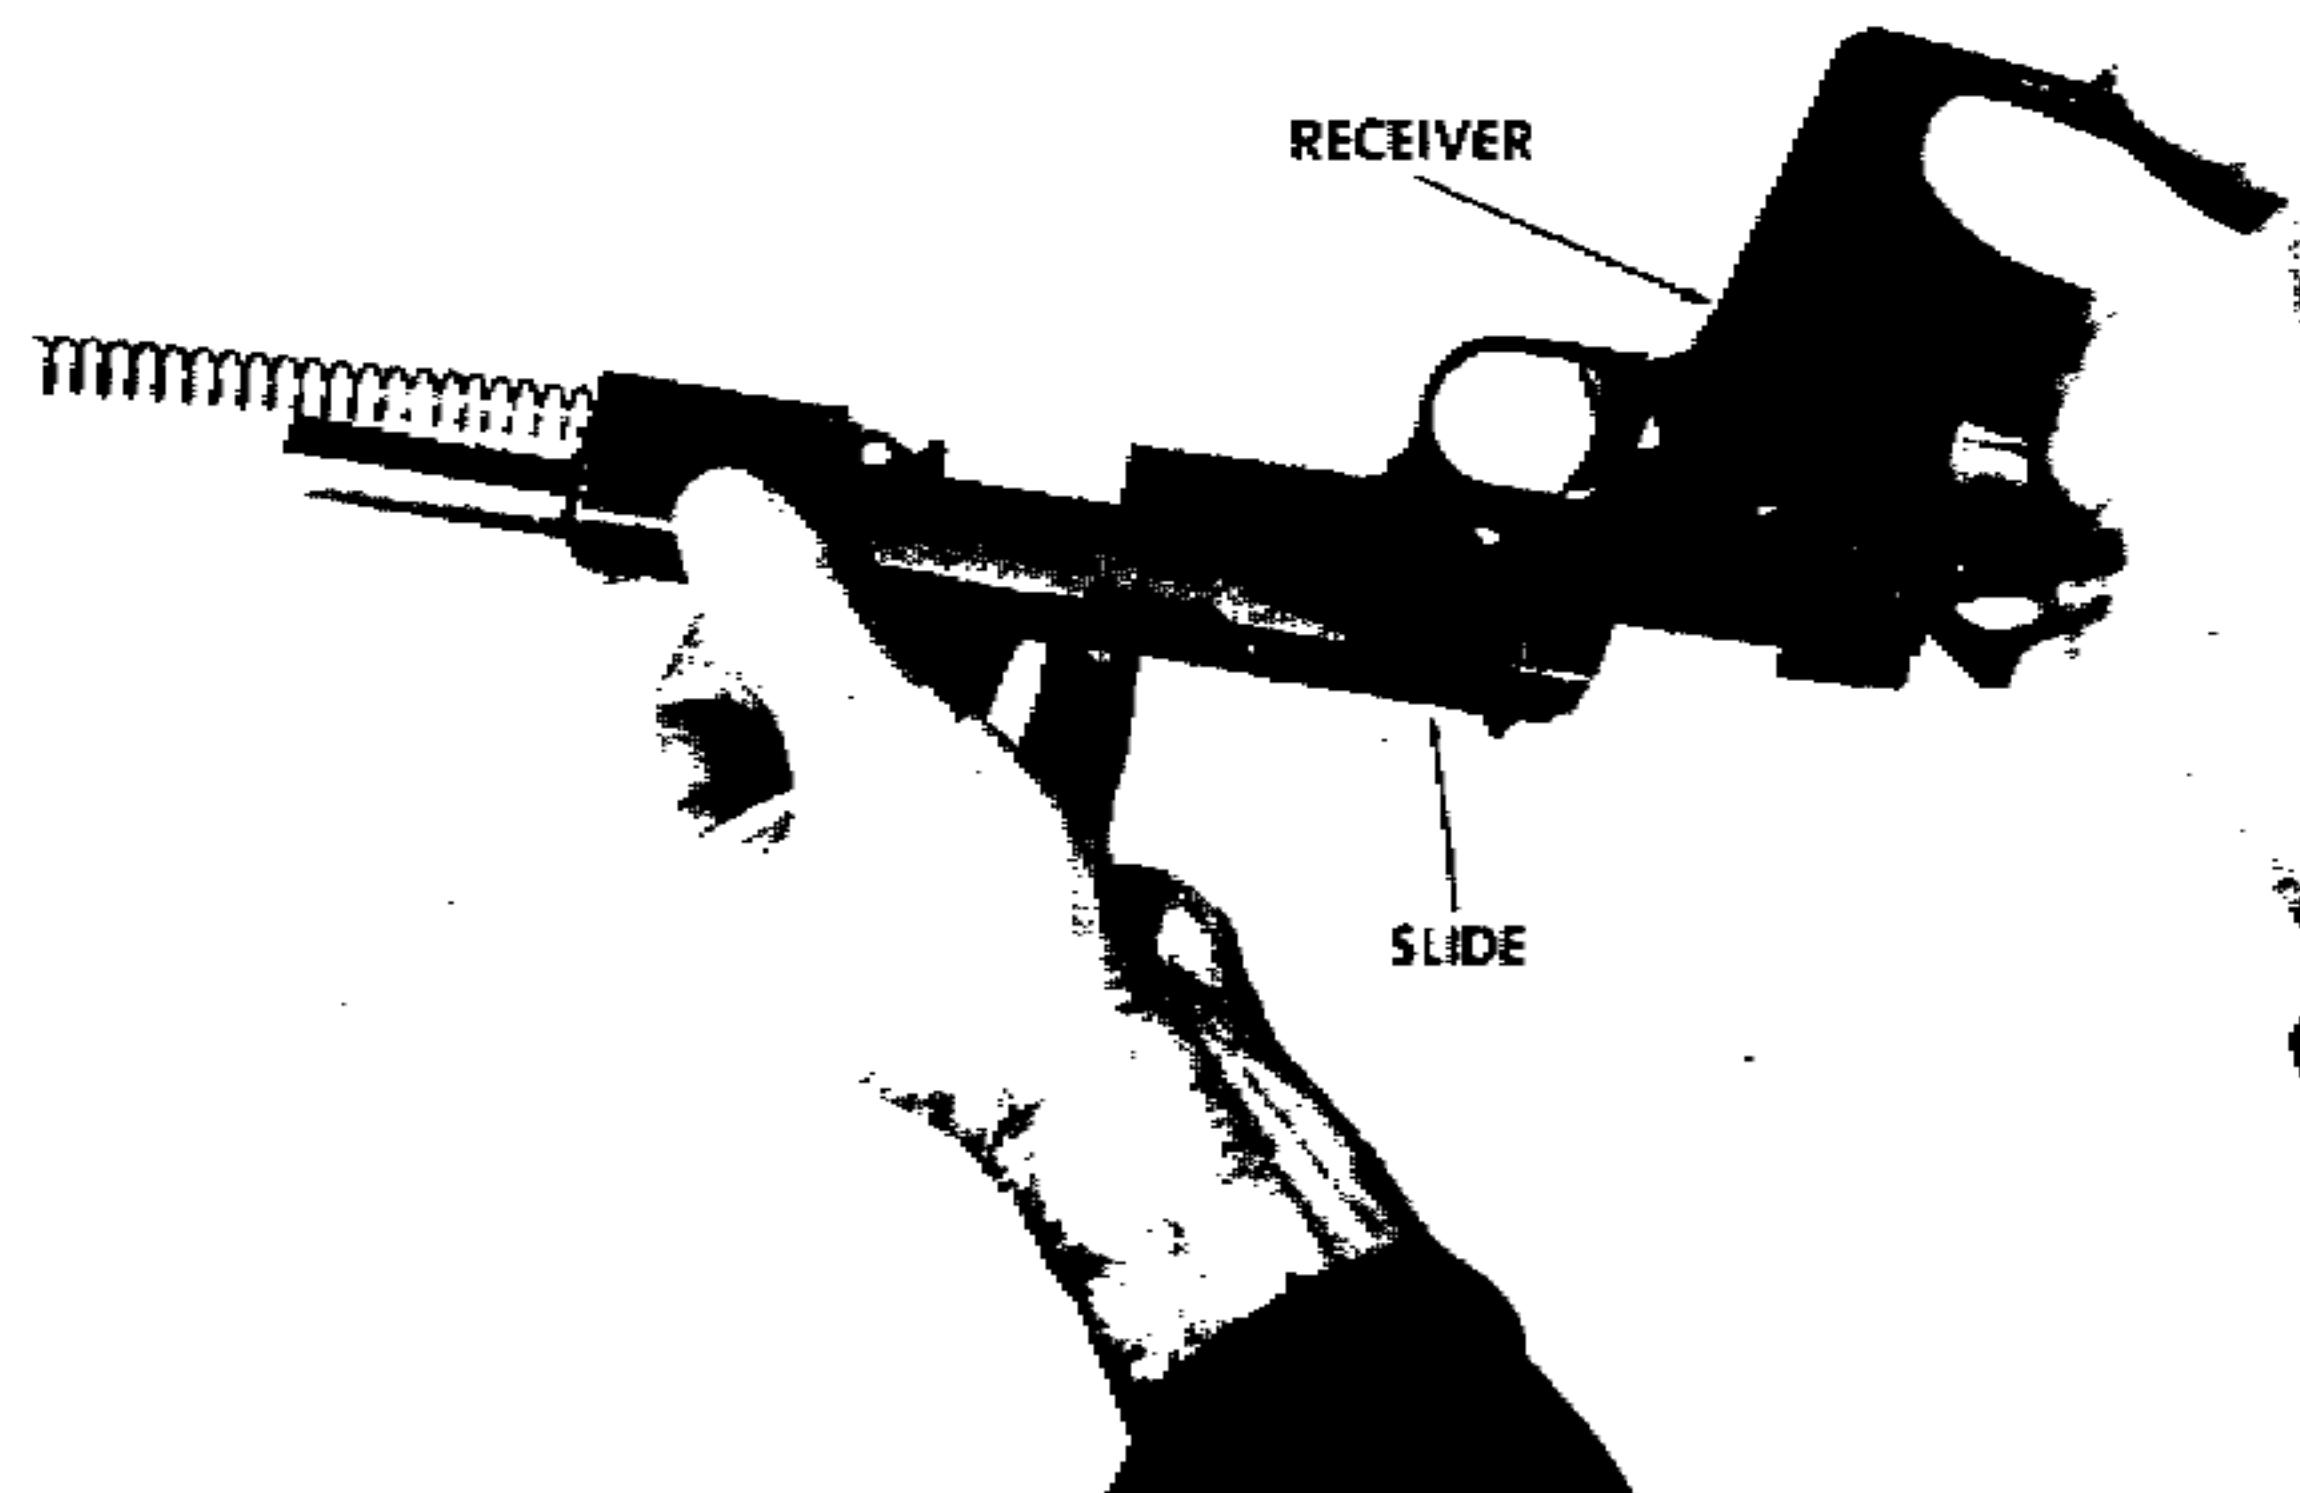

Figure 9. Pull the receiver rearward to separate it from the slide.
forward and rests against the hole in the recoil spring guide (fig. 9).
d. *Assembling the Receiver Group to the Slide Group.* Hold the slide with the sights down in the palm of one hand. Invert the receiver (the safety lock must be in the FIRE position) and engage the guide rails of the receiver in the grooves of the slide (fig. 9). Push the receiver all the way forward on the slide with a quick motion.